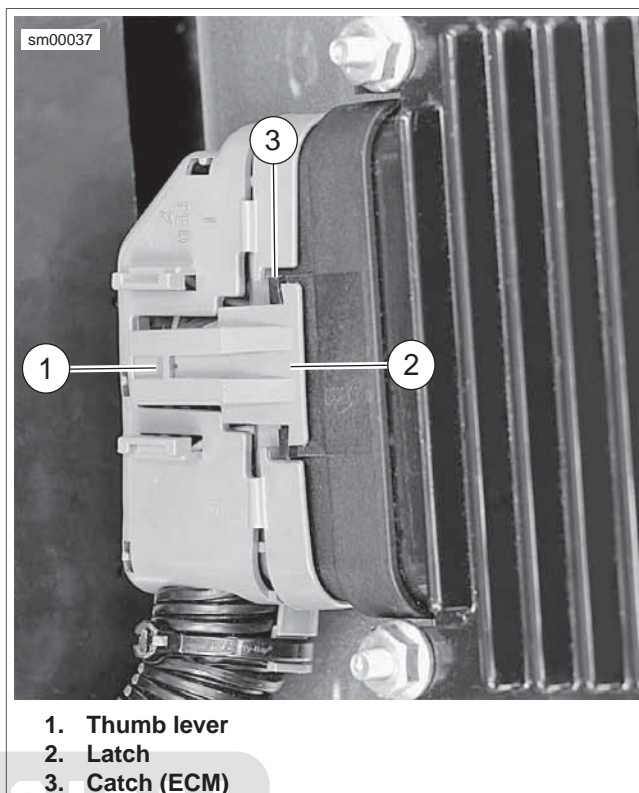

Figure A-38. Packard 100W to ECM (Typical)
See Figure A-38. While pressing the connector into the ECM, press the thumb lever (1) against the connector until the latch (2) pops out of the catch (3) on the ECM.